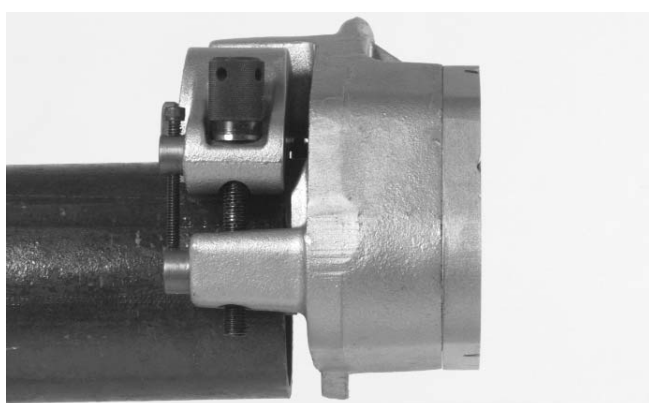

Figure 3 – Placing Groover on Pipe
2. Place 915 onto pipe/tube with feedscrew accessible (Figure 3).